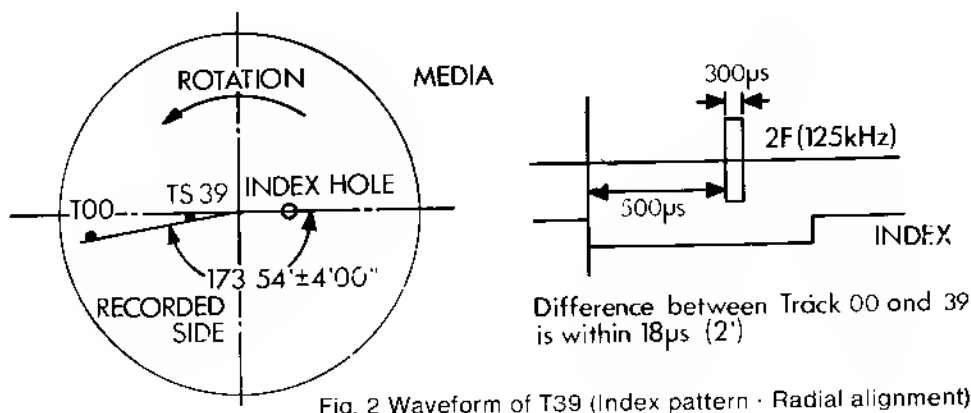

Fig. 2 Waveform of T39 (Index pattern · Radial alignment)
2. Adjustment of the index burst by use of Track 39 (Fig. 2).	○
- 4) Adjust 00 Sensor (8 on Fig. 6) so that scope shows correct difference as Fig. 2.